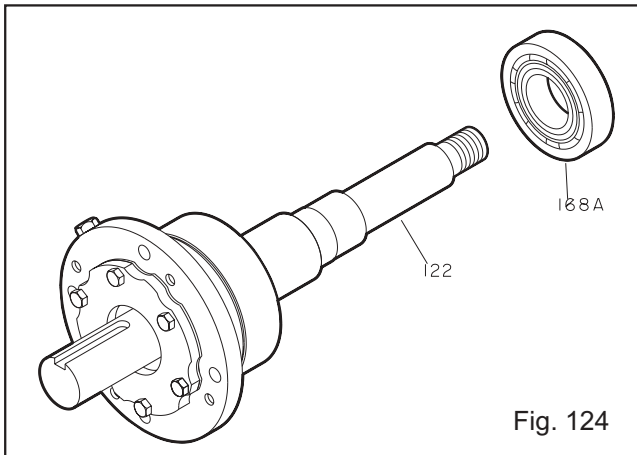

Fig. 124
- Install inboard bearing (168A) on shaft (122) (Fig. 124).